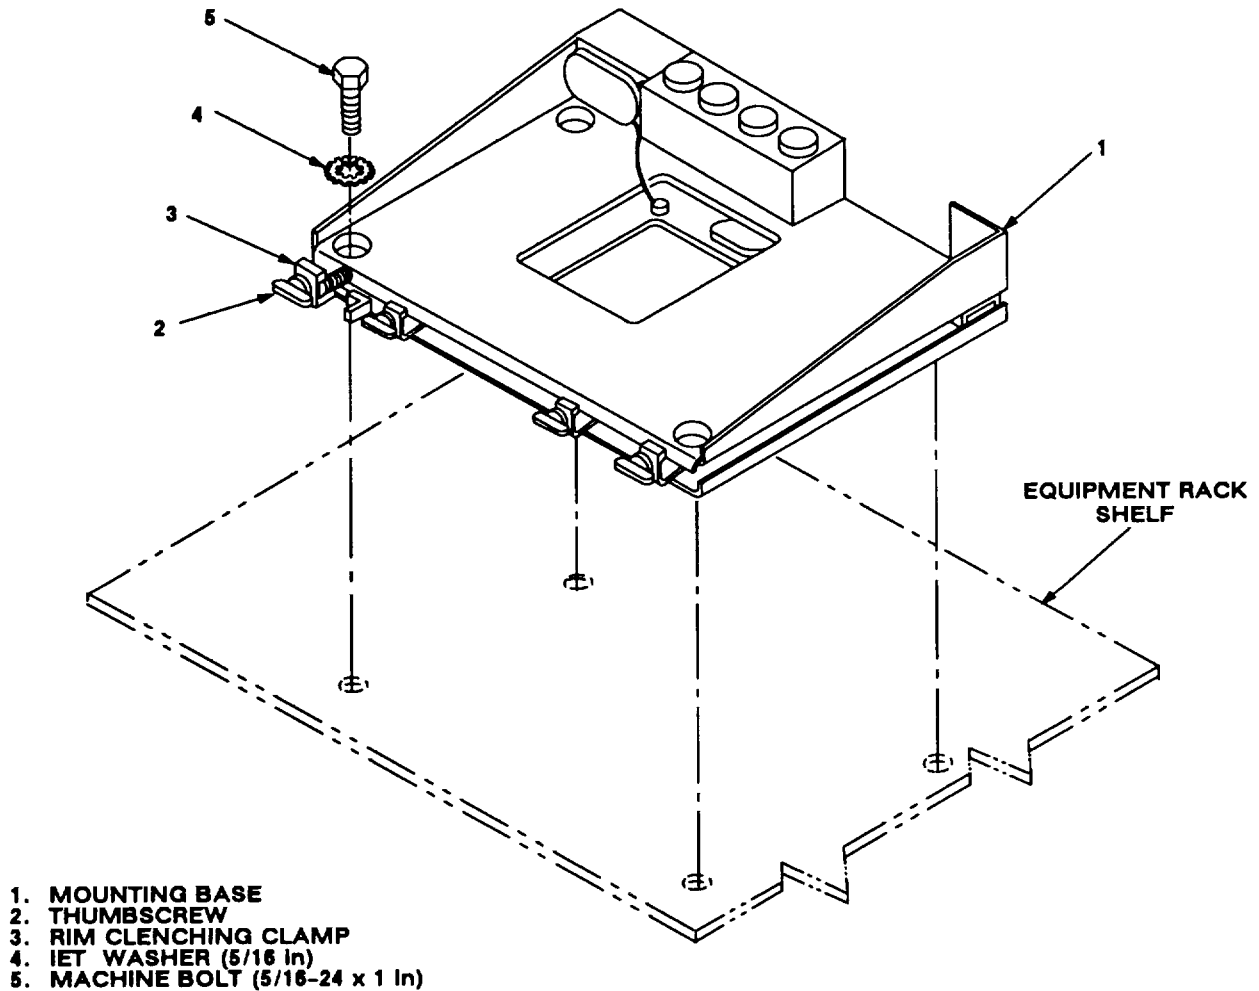

Figure 5-2. Mounting Base Installation
**5.1 Installation of Mounting Base, Electrical Equipment MT-63521VRC (mounting base).** Remove and retain attaching bag of 5/16 in mounting hardware for installation. To insure good electrical grounding, any rust, corrosion or paint around mounting holes in equipment rack shelf should be removed before installing the mounting base. See figure 5-2 and perform the following steps.
a. Mounting base (1).	Place on equipment rack shelf. See figure 5-2.
b. Two outer thumbscrews (2).	Turn ccw until both sets of threads have cleared center of holes.
c. Mounting base (1).	Aline holes with matching hole pattern in shelf.
d. Four machine bolts (5) and four IET washers (4).	Install and secure to mounting base (1) and shelf.	Tools: 1/2 in socket.
e. Two outer thumbscrews (2).	Tighten and secure to rim clenching clamps (3) and mounting base (1).